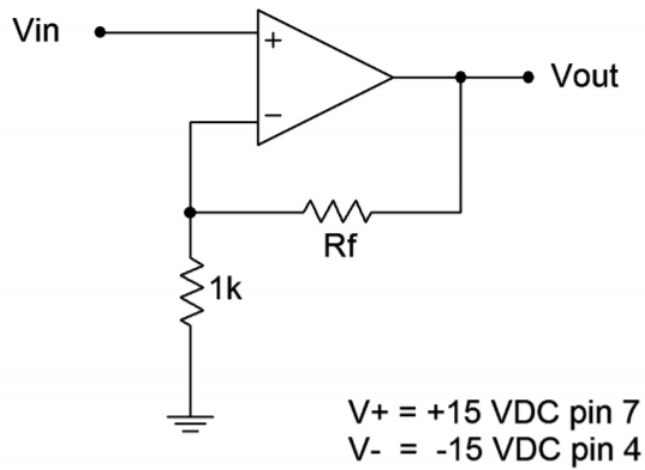

Figure 4.5.1
1. The voltage gain of the non-inverting amplifier can be determined accurately from the feedback resistors R_i and R_f . Calculate the voltage gains for the amplifier of Figure 4.5.1 for the R_f values specified, and record them in Table 4.7.1.
2. Assemble the circuit of Figure 4.5.1 using the 4k7 Ω resistor.
14. Return to the amplifier of Figure 4.5.1 with R_f set to 10k Ω . If available, the LF351 is a good choice for the op amp in this portion. Replace the general purpose generator with the low distortion sine source set to 1 kHz. Adjust its output level so that the output of the op amp is approximately 0 dBV.
17. Continuing with the amplifier of Figure 4.5.1, reset R_f to 4k7 Ω . Estimate and then measure the results for each individual error presented in Table 4.7.5.